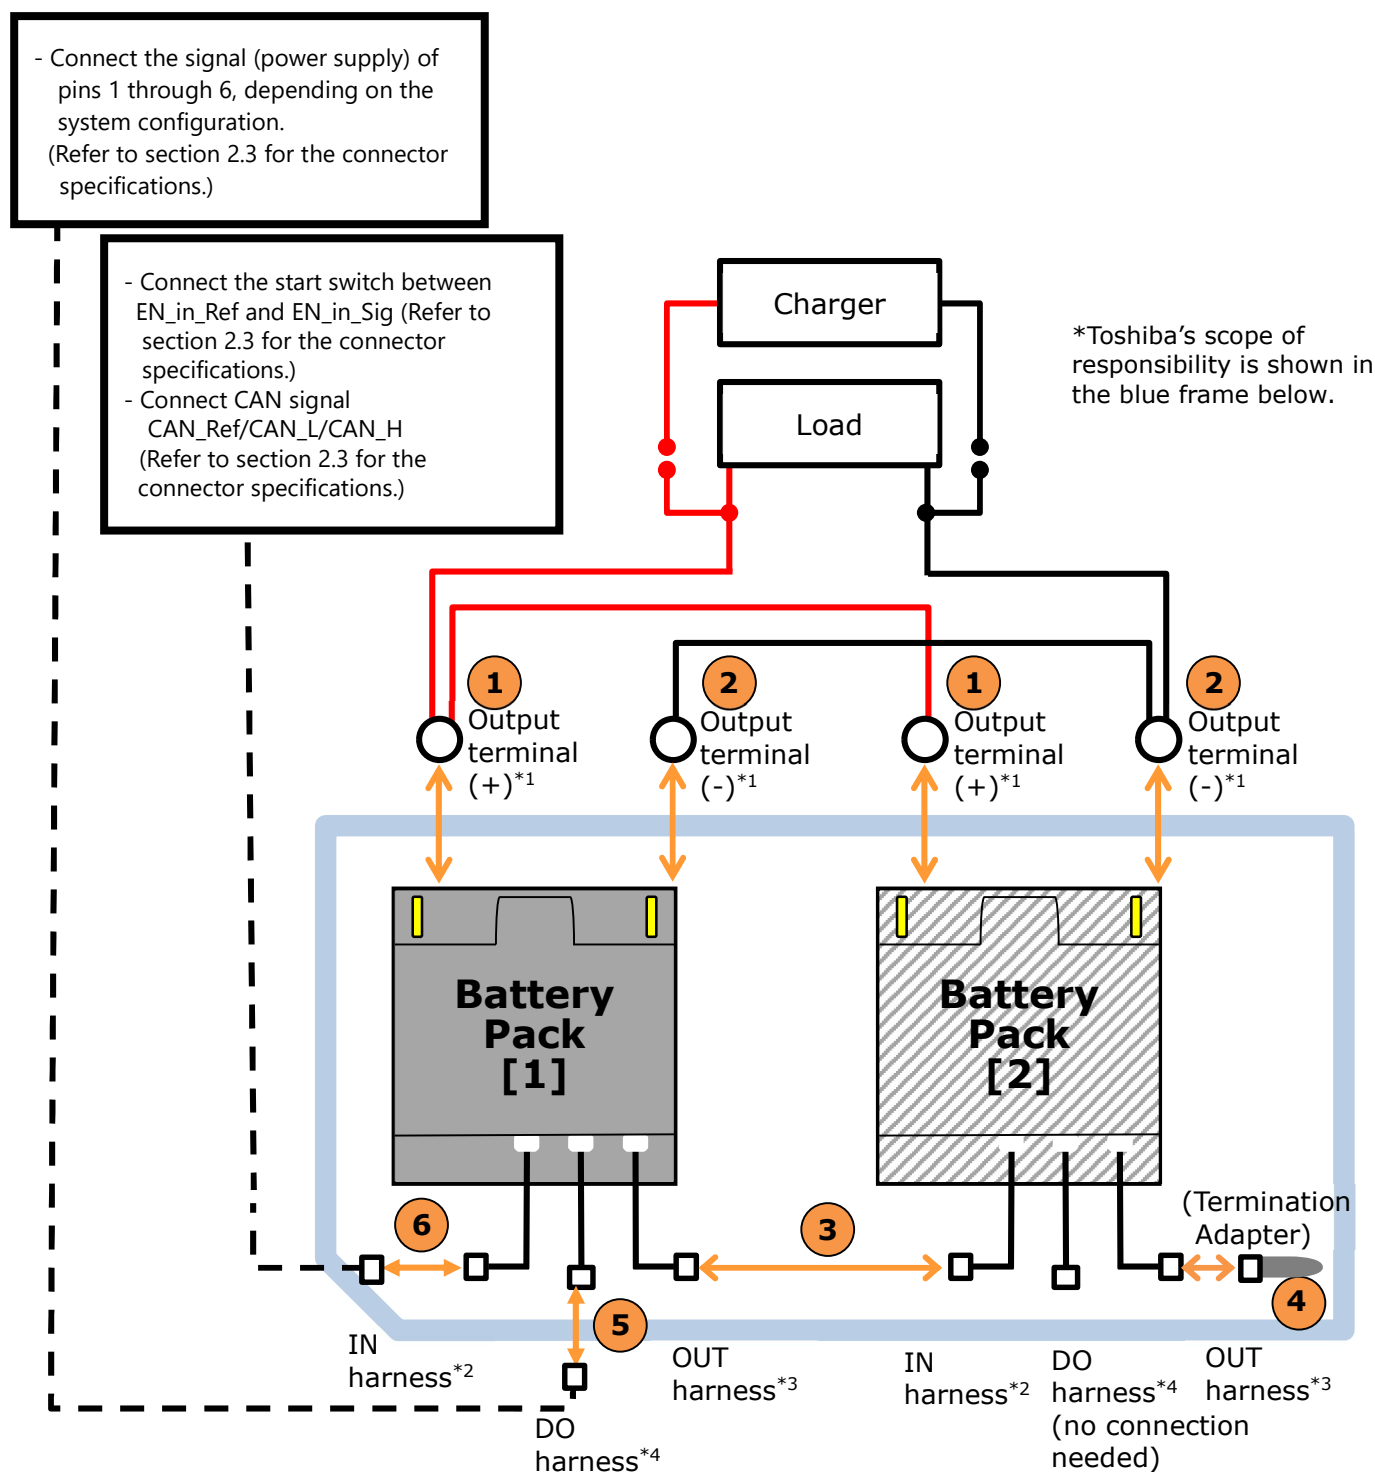

Figure 6-8 Connection Configuration with Both CAN Communication and DO Output
Please connect each device from ① to ⑥ in order as shown in Figure 6-8.